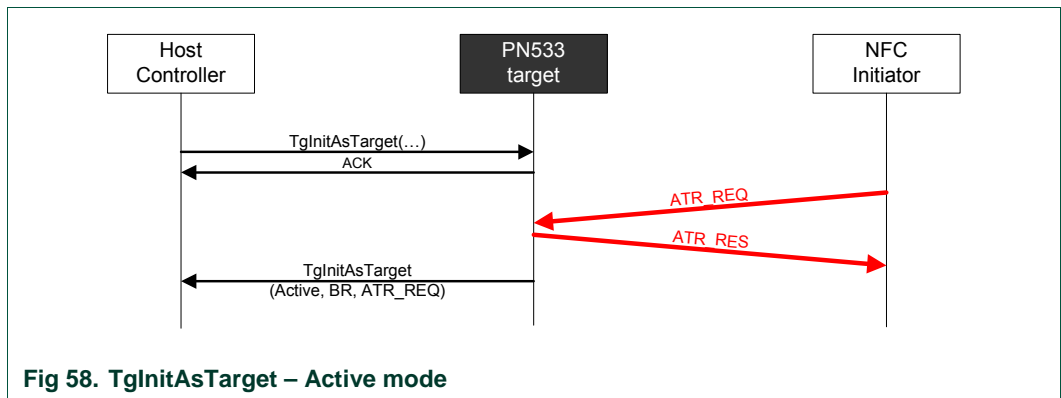

Fig 58. TgInitAsTarget – Active mode
- Depending on the flag *fAutomaticATR\_RES* (§8.2.8, p.66), the PN533 sends automatically the ATR\_RES frame (Fig 58) or not. If not, the host controller shall use the **TgSetGeneralBytes** (§8.4.16, p.133);